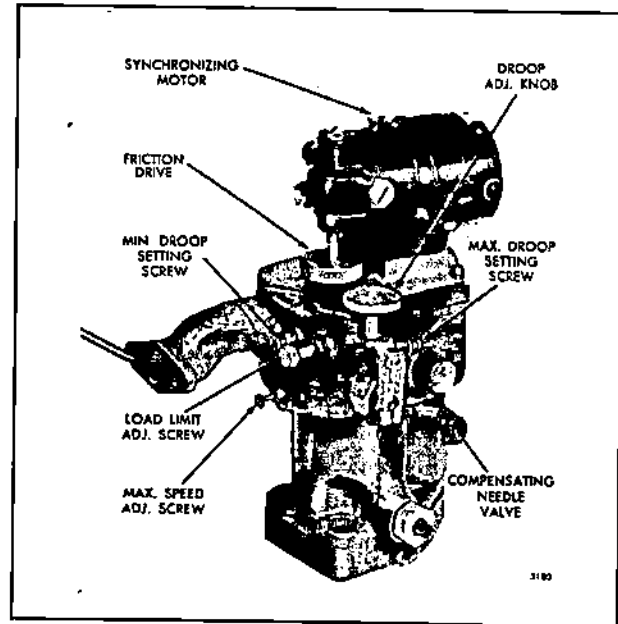
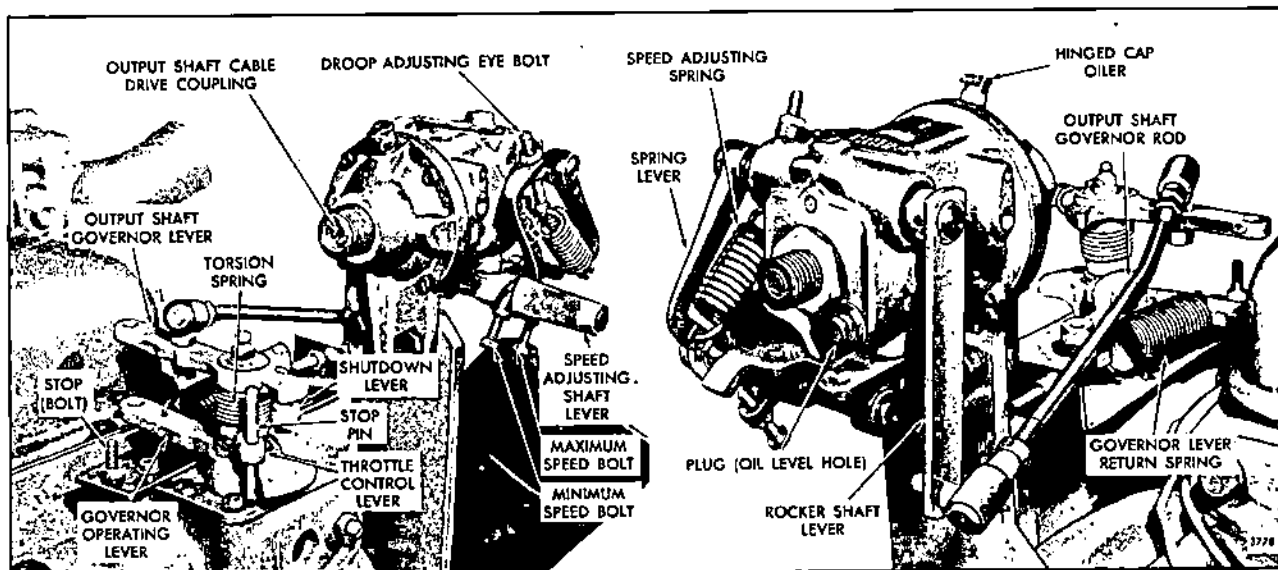
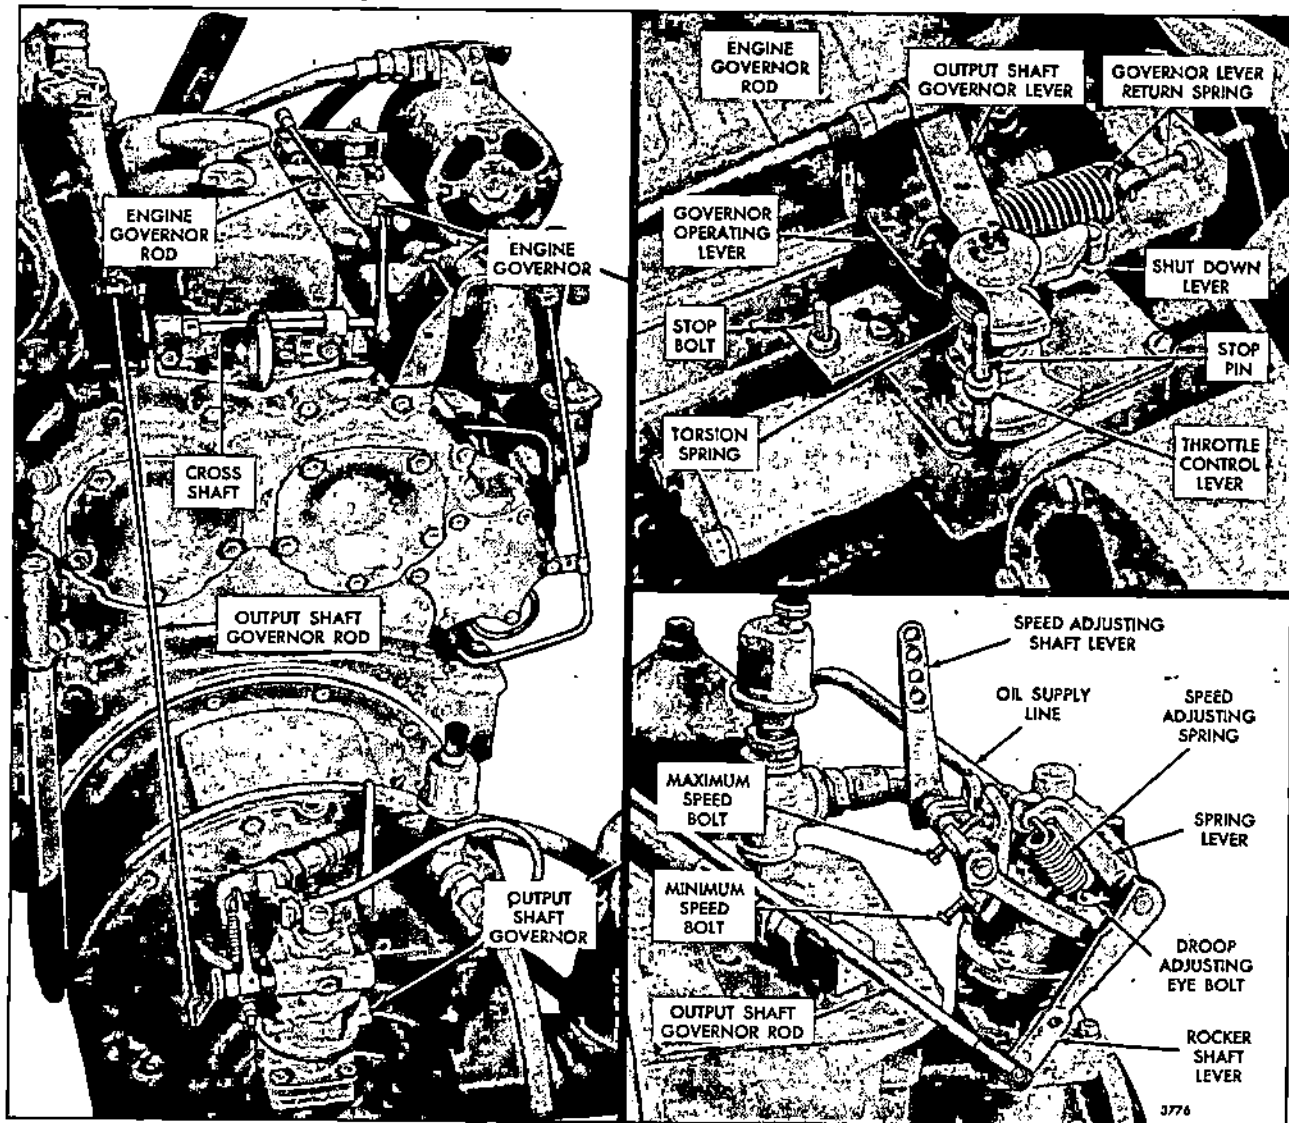

Fig. 19 - Typical Synchronizing Motor Mounting
Fig. 20 - Flexible Shaft Driven Output Shaft Governor and Linkage
Fig. 21 - Gear Driven Output Shaft Governor and Linkage
Some hydraulic governors are equipped with a reversible synchronizing motor which is mounted on the governor cover, Fig. 19. This motor makes a close adjustment of the engine speed possible by remote control and is especially valuable for synchronizing two generators from a central control panel.
The adjustments on a governor equipped with a synchronizing motor are the same as on a governor without the motor. If the governor does not have an external droop setting screw, Fig. 19, the governor cover and motor assembly must be removed when the engine speed droop is set. Reinstall the governor cover and motor to check the speed droop.
A Pierce mechanical governor is used to maintain a near constant output shaft speed on engines equipped with a torque converter. The governor may be mounted at the front of the engine (Fig. 20) and driven by a flexible shaft from the converter output shaft, or may be mounted on the torque converter and gear driven from the output shaft (Fig. 21).
The output shaft governor is connected to the engine governor by control rods and levers as illustrated in Figs. 20 and 21. The control rod end ball joints are sealed assemblies and do not require lubrication. However, the throttle control shaft bearings should be lubricated periodically with all purpose grease through the grease fittings. Other moving parts of the control linkage should be lubricated with engine oil.
- 6a. Adjust the flexible-shaft driven output shaft governor rod length until it will just slide into the inner hole of the output shaft governor lever (Fig. 20). Then, increase the length of the rod until there is approximately .020" clearance between the stop pin and the output shaft governor lever, and the bend in the rod is positioned as shown in Fig. 19. Tighten the adjustment.
- 6b. To adjust the linkage between the output shaft governor (mounted on the torque converter) and the engine governor, loosen the output shaft governor rod clamping bolt in the ball joint in the rear cross shaft lever (Fig. 21). Next, move the output shaft governor rod until there is approximately .020" clearance between the stop pin and the output shaft governor lever. Then, tighten the clamping bolt securely.